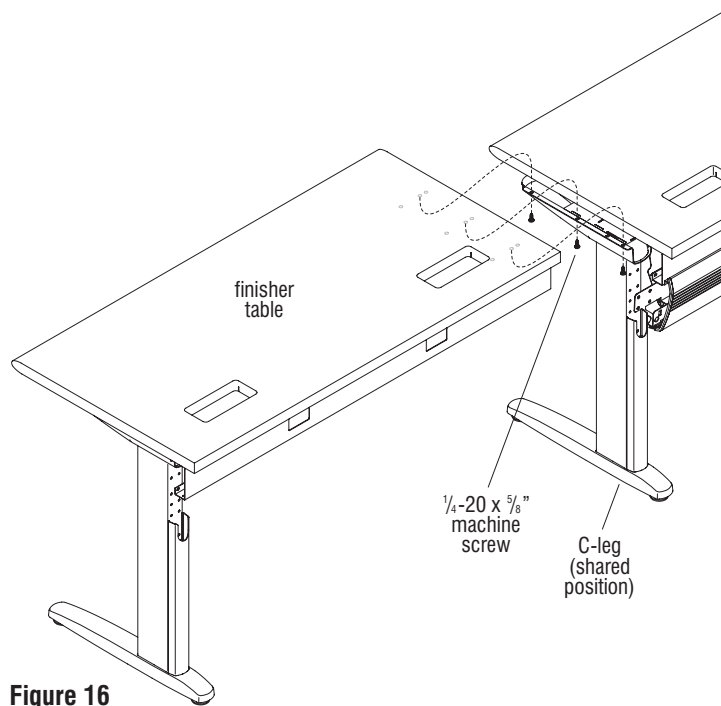

Figure 16
12. With the assistance of a second person, carefully turn the finisher rectangular table, to be connected to the next table in your configuration, to the upright position. Rest the no-leg end of the worksurface or wheelchair accessible kit onto the shared position C-leg of the previous unit. Align the mounting holes on the leg with the finisher worksurface or wheelchair kit holes and secure together using three $\frac{1}{4}$ -20 x $\frac{5}{8}$ " machine screws. If the screws are securing the legs to the wheelchair kit, at the threaded end of each bolt, twist a $\frac{1}{4}$ -20 nut on until snug. For ease of installation, start all screws before tightening (Figure 16 & Detail S).